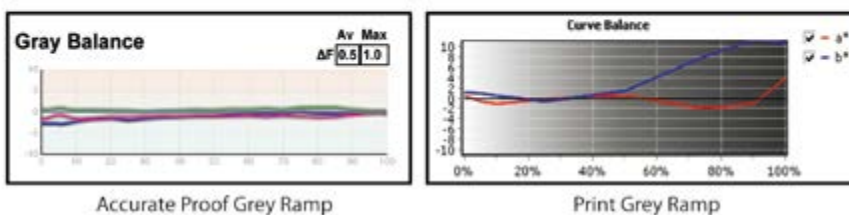

Figure 6: grey ramp comparison
- 2 The three-colour overprint is very yellow cast. The CMY is not balanced as it overprints and has a yellow cast. Look at the grey ramp in Figure 6: Grey Ramp Comparisons. You can see that the grey ramp is yellow cast. That means anything in the image would have a yellow cast. A blue sweater would be slightly green. A fleshstone would be too warm. A green would be yellow cast.